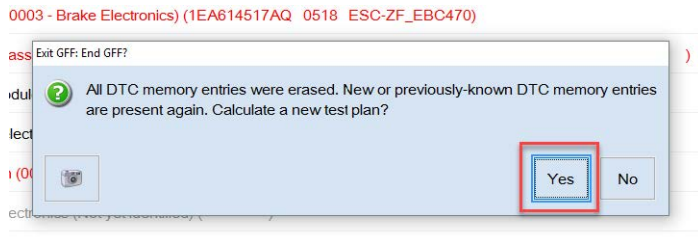

Figure 23: Calculate new test plan list
- When prompted, select “YES” to populate a new test plan list (see figure 23).
- When prompted, select “YES” to populate a new test plan list (see figure 23 above).